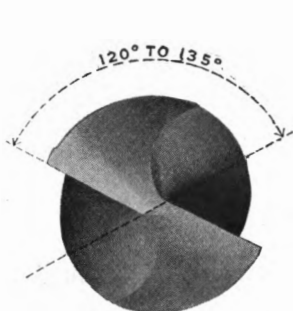

Fig. 10
- 28 *This angle of lip clearance should be gradually increased, however, as the center of the drill is approached* — until the line across the dead center of the drill stands at an angle with the cutting edges of not less than 120 degrees, or it may be as much as 135 degrees — as in Fig. 10.